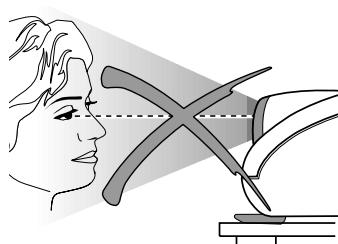

Fig. 13
**!** **CAUTION: Intense Light Source! Do not stare directly into the projection lens as possible eye damage could result. Be especially careful that children do not stare directly into the beam (Fig. 13).**